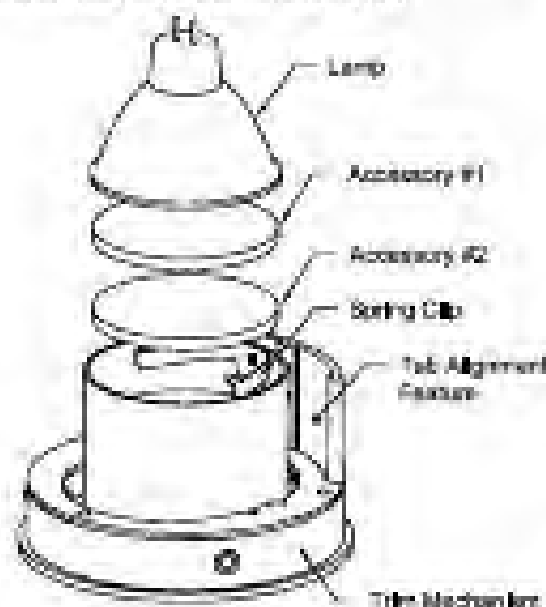
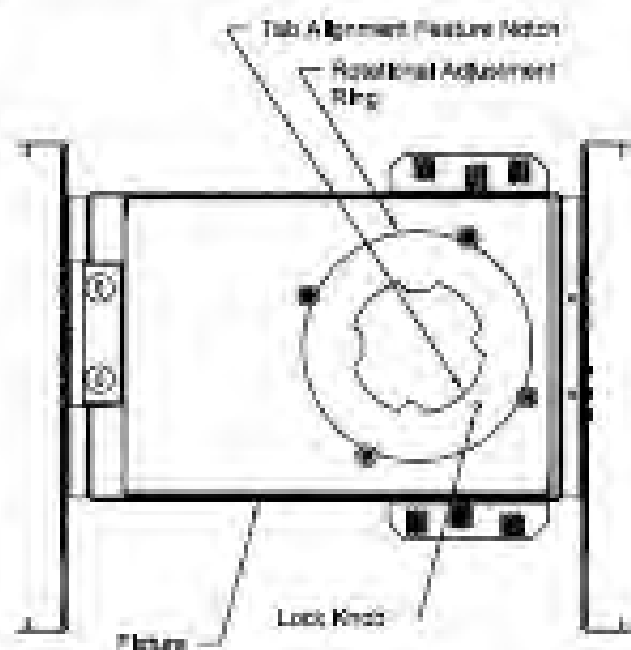

Figure 4
Figure 5
2. Slide out Lamp and/or Accessories from under Bracket Arm to remove. See Fig. 4.
4. To ensure original light beam placement, align Tab Alignment Feature on Trim Mechanism (See Fig. 4 & 5) with Tab Alignment Feature on Rotational Adjustment Ring Inside Fixture (See Fig. 5).
3. Tighten Lock Knob Inside Fixture to lock Rotational Adjustment Ring. See Fig. 5.